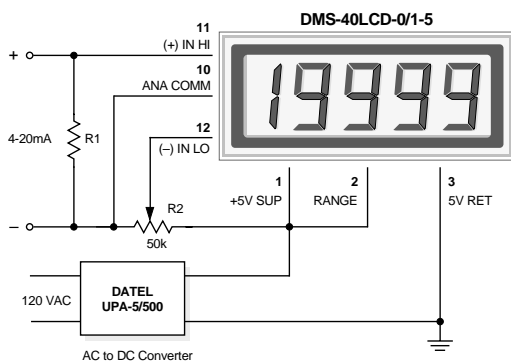

Figure 7. 4-to-20mA Current Loop Operation (5V-Powered Models)
- 5. Process Control (4-to-20mA) Measurements:** In many common process-control applications, a 4-to-20mA current loop is used to transmit information. Because DMS-40LCD meters have such high input impedance, a simple shunt resistor across the meter's input can be used to convert the loop current to a voltage. See Figure 7. The value of the shunt resistor is a function of the scaling requirements of the particular application and can be calculated using the following equation:
To calibrate the circuit of Figure 7, perform the following: